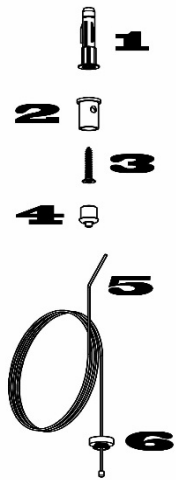

Fig. 2: Steel wire suspension
- First of all, the ceiling suspension (Fig. 2, No. 2) has to be mounted to the ceiling securely by using screws and plugs.